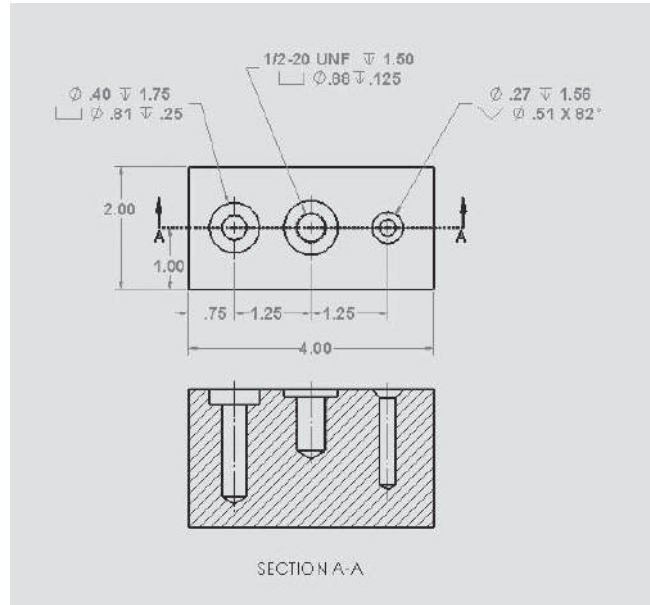

Figure P7-46
1. Draw a 3D model from the given top orthographic and section views in Figure P7-46.